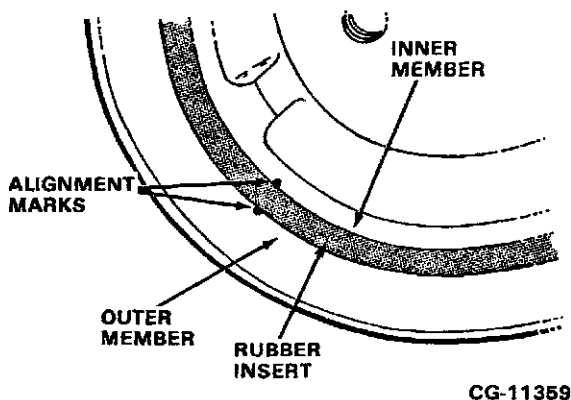

Figure 7.47. Vibration Damper Alignment Marks
2. If the marks (Figure 7.47) are misaligned by more than the specified maximum, REPLACE THE DAMPER. Refer to "SPECIFICATIONS".